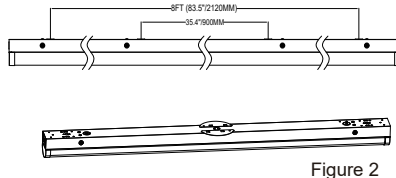

Figure 2
- Step2. Clamp the disc from the accessory kit to the lamp (this step can be omitted if the light fixture can completely cover the junction box on the wall) (figure 2)